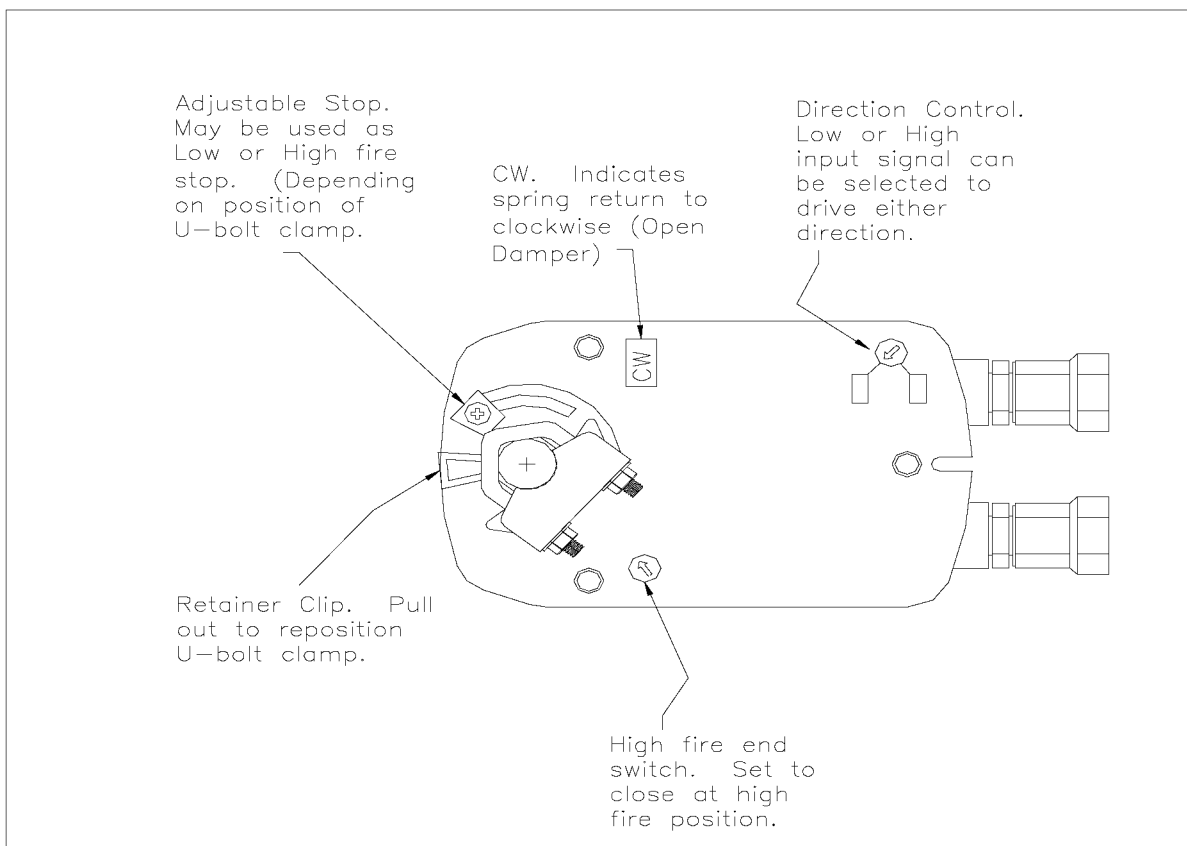

Figure 15: Belimo LF24-SR-S Actuator
- 11.8 Modulation of the burner is now accomplished by the control signal. Depending on the setting of the Direction Control Switch located on the actuator (**Figure 15**), a low or high input signal can drive the actuator clockwise or counterclockwise (low fire or high fire).
- 11.9 An adjustable stop located on the actuator (**Figure 15**), is used to limit the high fire or low fire position. If the high fire damper position is changed due to a lower than maximum firing rate, the pilot should be rechecked at this new damper position.
- 11.17 Modulation of the burner is now accomplished by the control signal. Depending on the setting of the Direction Control Switch located on the actuator (**Figure 15**), a low or high input signal can drive the actuator clockwise or counterclockwise (low fire or high fire).
- 11.18 An adjustable stop located on the actuator (**Figure 15**), is used to limit the high fire or low fire position. If the high fire damper position is changed due to a lower than maximum firing rate, the pilot should be rechecked at this new damper position.